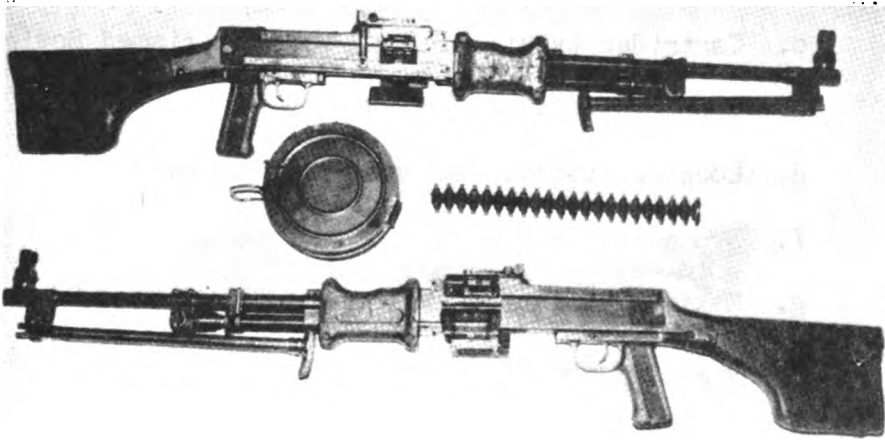

Figure 6
6. Identify The RPD. (See fig. 6.)